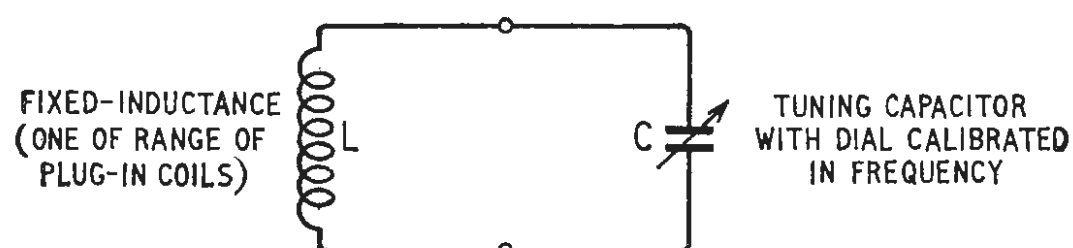

Fig. 72. Basic circuit of absorption wavemeter.
**Absorption Wavemeter.**—For measuring radio frequencies, the least complicated instrument is the absorption wavemeter. In its simplest shape this takes the form of an LC circuit as shown in Fig. 72, where the tuning capacitor is fitted with a dial calibrated in frequency.